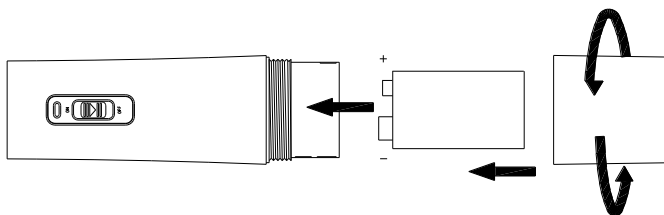

Fig. 2
2. Insert a 9V battery into the battery compartment according to the correct polarity as shown in Fig.2. The moment the battery touches the terminals of compartment, the indicator will flash briefly.
2. Insert a 9V battery into the battery compartment according to the correct polarity as shown in Fig.2. Then push up to close the battery compartment as shown in Fig. 3.
(fig.2)